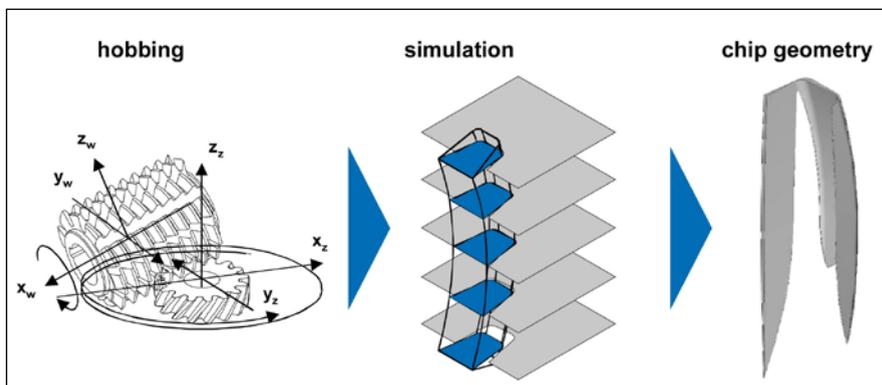

Figure 1—General approach for Penetration Calculation I.
(Fig. 1). The resolution is limited by the number of layers along the workpiece width (199), the number of angle steps for a single chip (200) and the medium dot distance on the workpiece and tool profile. This distance has a relative limitation of 0.05 times module.